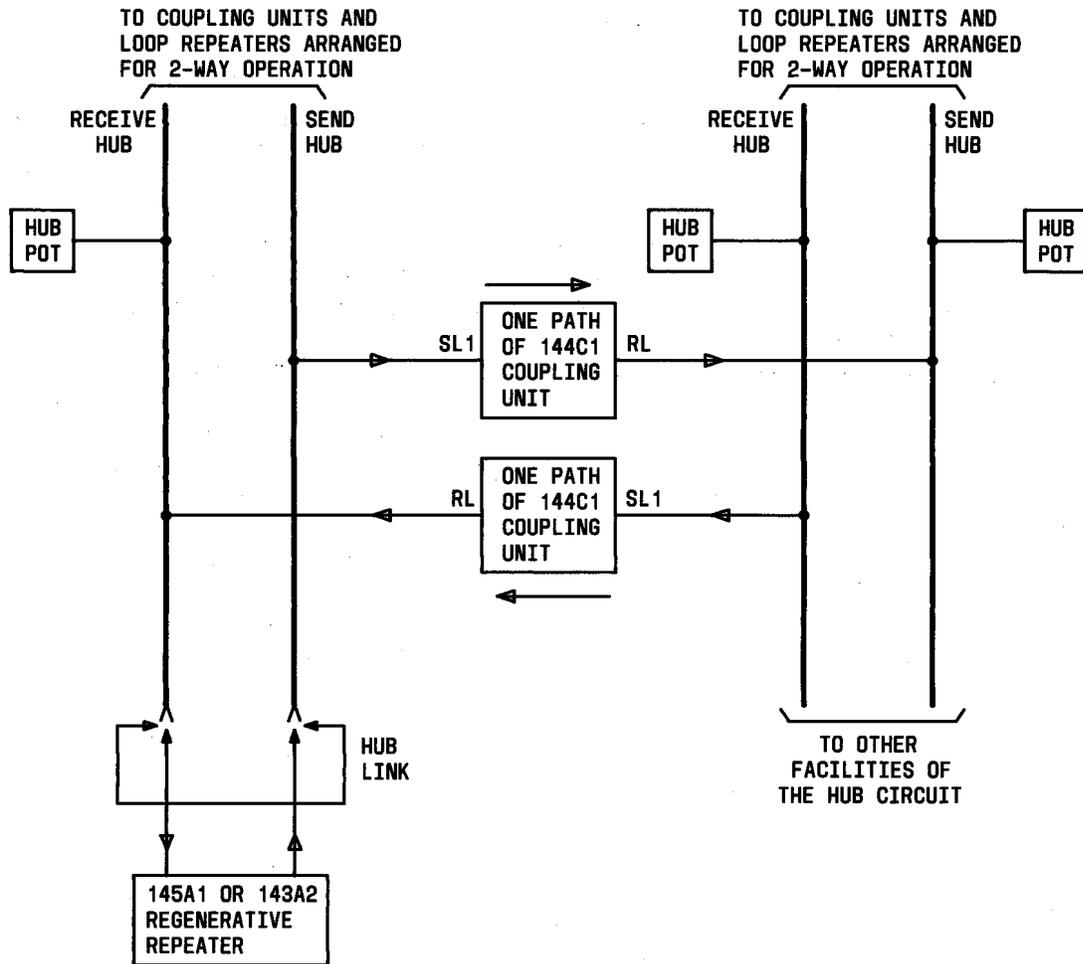

Fig. 3—Interconnection of Two-Way Hub Circuits
3.03 Figure 3 shows the 144C1 coupling unit used to connect from the send hub of a main concentration of half-duplex legs to the send hub of a second concentration of half-duplex legs. In this case, no connection is made between the receive and send hubs of the second concentration group. A half-duplex repeater must be used to connect the receive hub of the second concentration group to the receive hub of the first concentration group. A regenerative repeater used at the first concentration group then regenerates signals to and from all legs on both concentration groups.